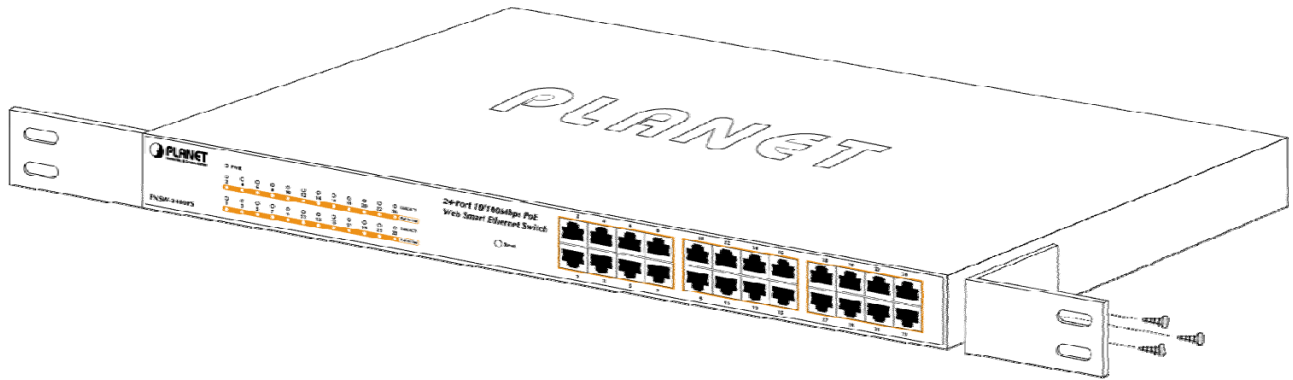

Figure 2-3 Attaching the brackets to the POE Web Smart Ethernet Switch
Step 2: Attach a rack-mount bracket to each side of the POE Web Smart Ethernet Switch with supplied screws attached to the package. Figure 2-3 shows how to attach brackets to one side of the POE Web Smart Ethernet Switch.